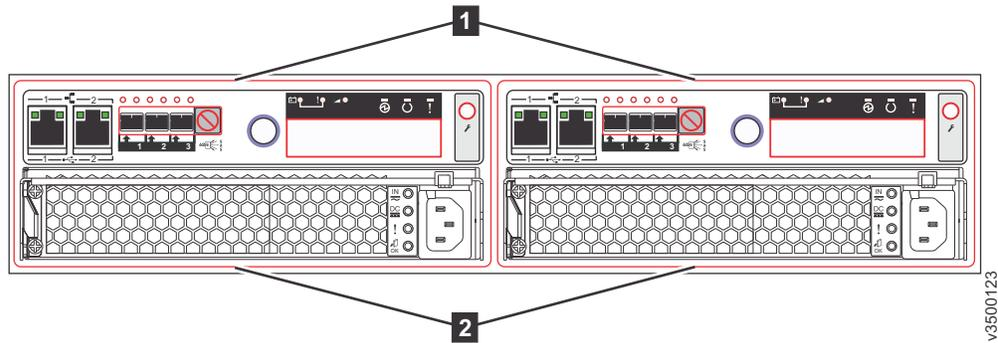

Figure 1. Rear view of a Storwize V3500 control enclosure
Figure 1 shows the rear view of a control enclosure and identifies the location of the power supply units and node canisters.
**Note:** Figure 1 shows the node canisters in their initial configuration, with no host interface card options installed.